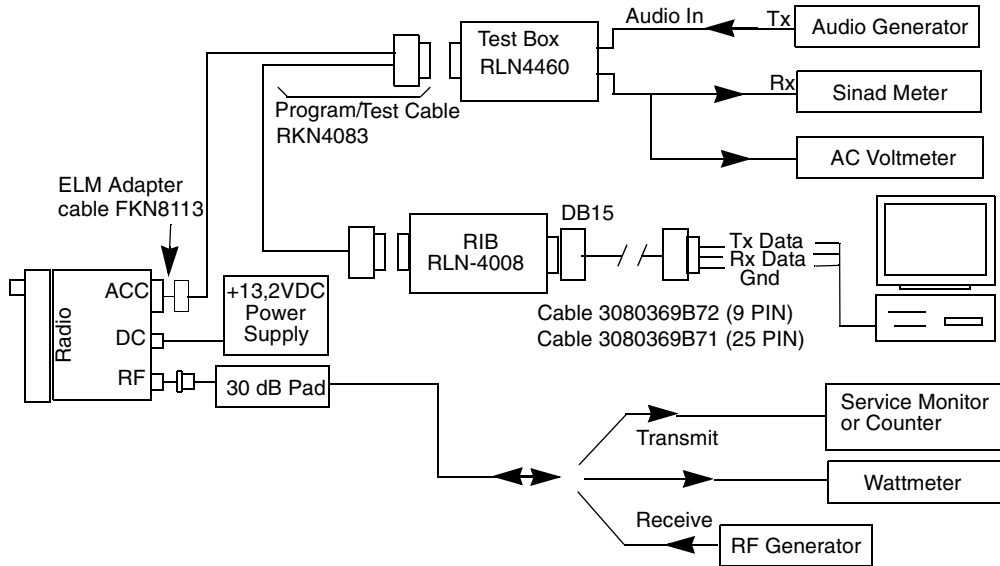

Figure 4-6 Radio Tuning Test Equipment Setup with External RIB
A personal computer (PC), Windows 98/ME/NT/2000 and a tuner program are required to tune the radio. To perform the tuning procedures, the radio must be connected to the PC, radio interface box (RIB), and test equipment setup as shown in Figure 4-6.